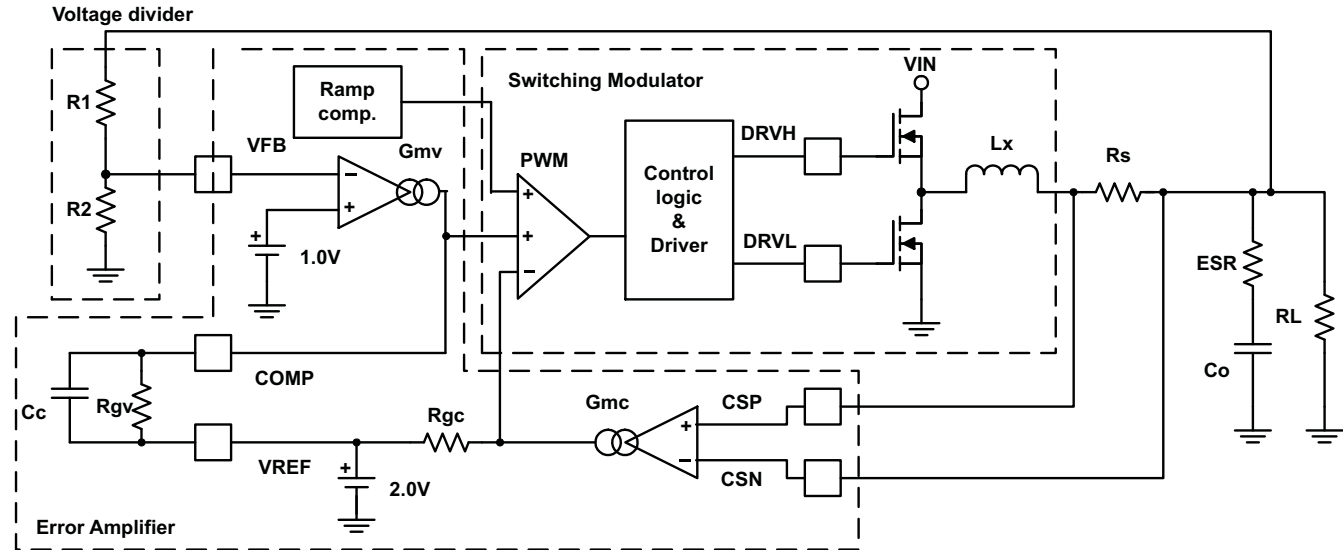

Figure 42. Simplified Current Mode Functional Blocks
A buck converter using the TPS51222 consists of linear circuits and a switching modulator. Figure 42 shows the basic scheme.
1. Determine output voltage dividing resistors (R1 and R2: shown in Figure 42) using the next equation